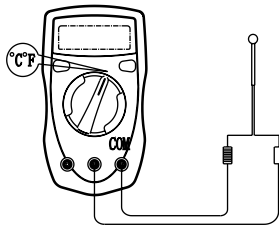

Figure 6
F. Model UT33C: Temperature Measurement (see figure 6)